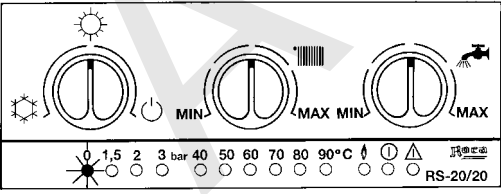

Fig. 12
In order to clean the filter at the cold water intake, proceed as follows (see Figs. 12 and 13): Close the mains stopcock (19).